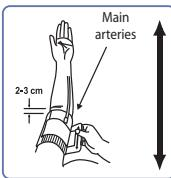

Fig. 3
- Put your arm through the cuff loop. The bottom of the cuff should be approximately 2-3 cm above elbow. The tube should lie over the brachial artery on the inside of the arm (Fig. 3).